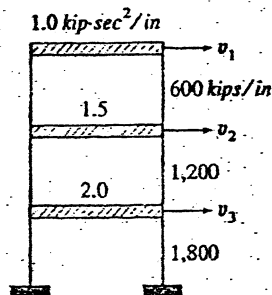

Figure 1
3. a) The mass and stiffness properties of a three-story shear building are shown in figure 1. The structure is set into free vibration by displacing the floors as follows: $v_1 = 0.3$ in, $v_2 = 0.8$ in and $v_3 = 0.3$ in and then releasing them suddenly at time $t = 0$. Determine the displaced shape at time $t = 2$ sec assuming undamped vibration. [16]
- b) Verify the orthogonality properties of the structure shown in above figure 1. [4]